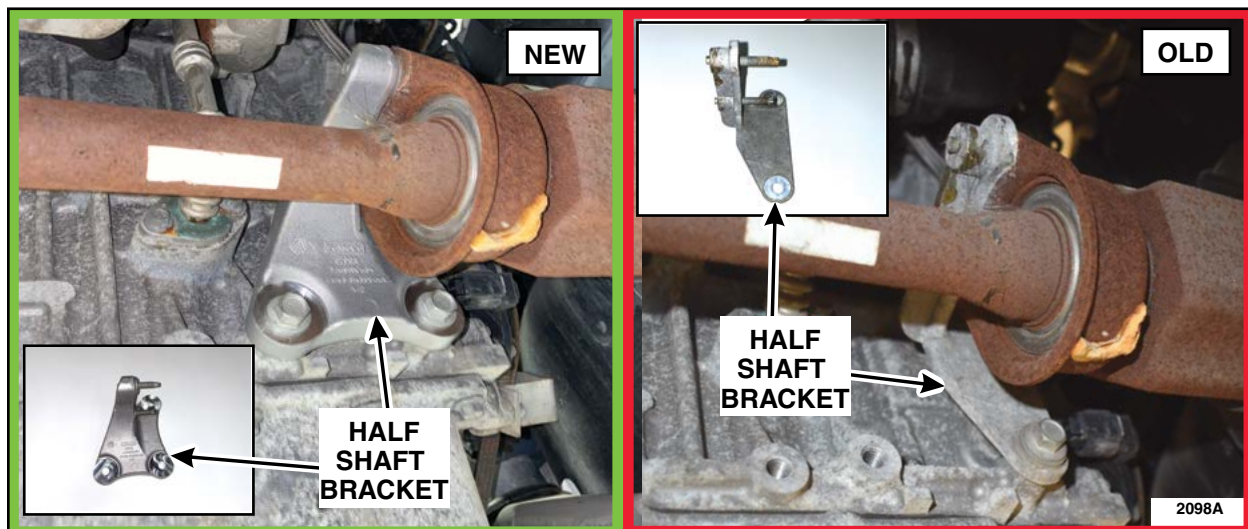

FIGURE 1
**NEW !** 2. *Inspect the Right Hand (RH) side half shaft bracket. Is the new style bracket already installed? The new bracket will have three mounting bolts, the old style bracket will have two. See Figure 1.*
3. If equipped, remove the two (2) side shield screws and remove the shield located in the passenger fender splash shield area.
5. If equipped, remove the two (2) heated oxygen sensor wiring retainers on the half shaft bearing nuts.
6. Remove and discard the two (2) half shaft retaining nuts.
7. Remove and discard the two (2) RH half shaft bearing bracket bolts and remove the bracket.
**NOTE:** To see the old and *new* half shaft bracket. See Figure 1.